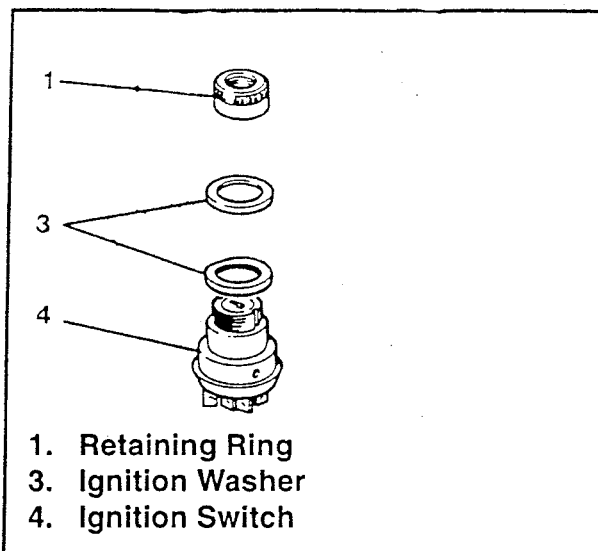

Figure 5-42. Ignition Switch
2. See Figure 5-42. When assembling, be sure the ignition switch washers are installed as shown.